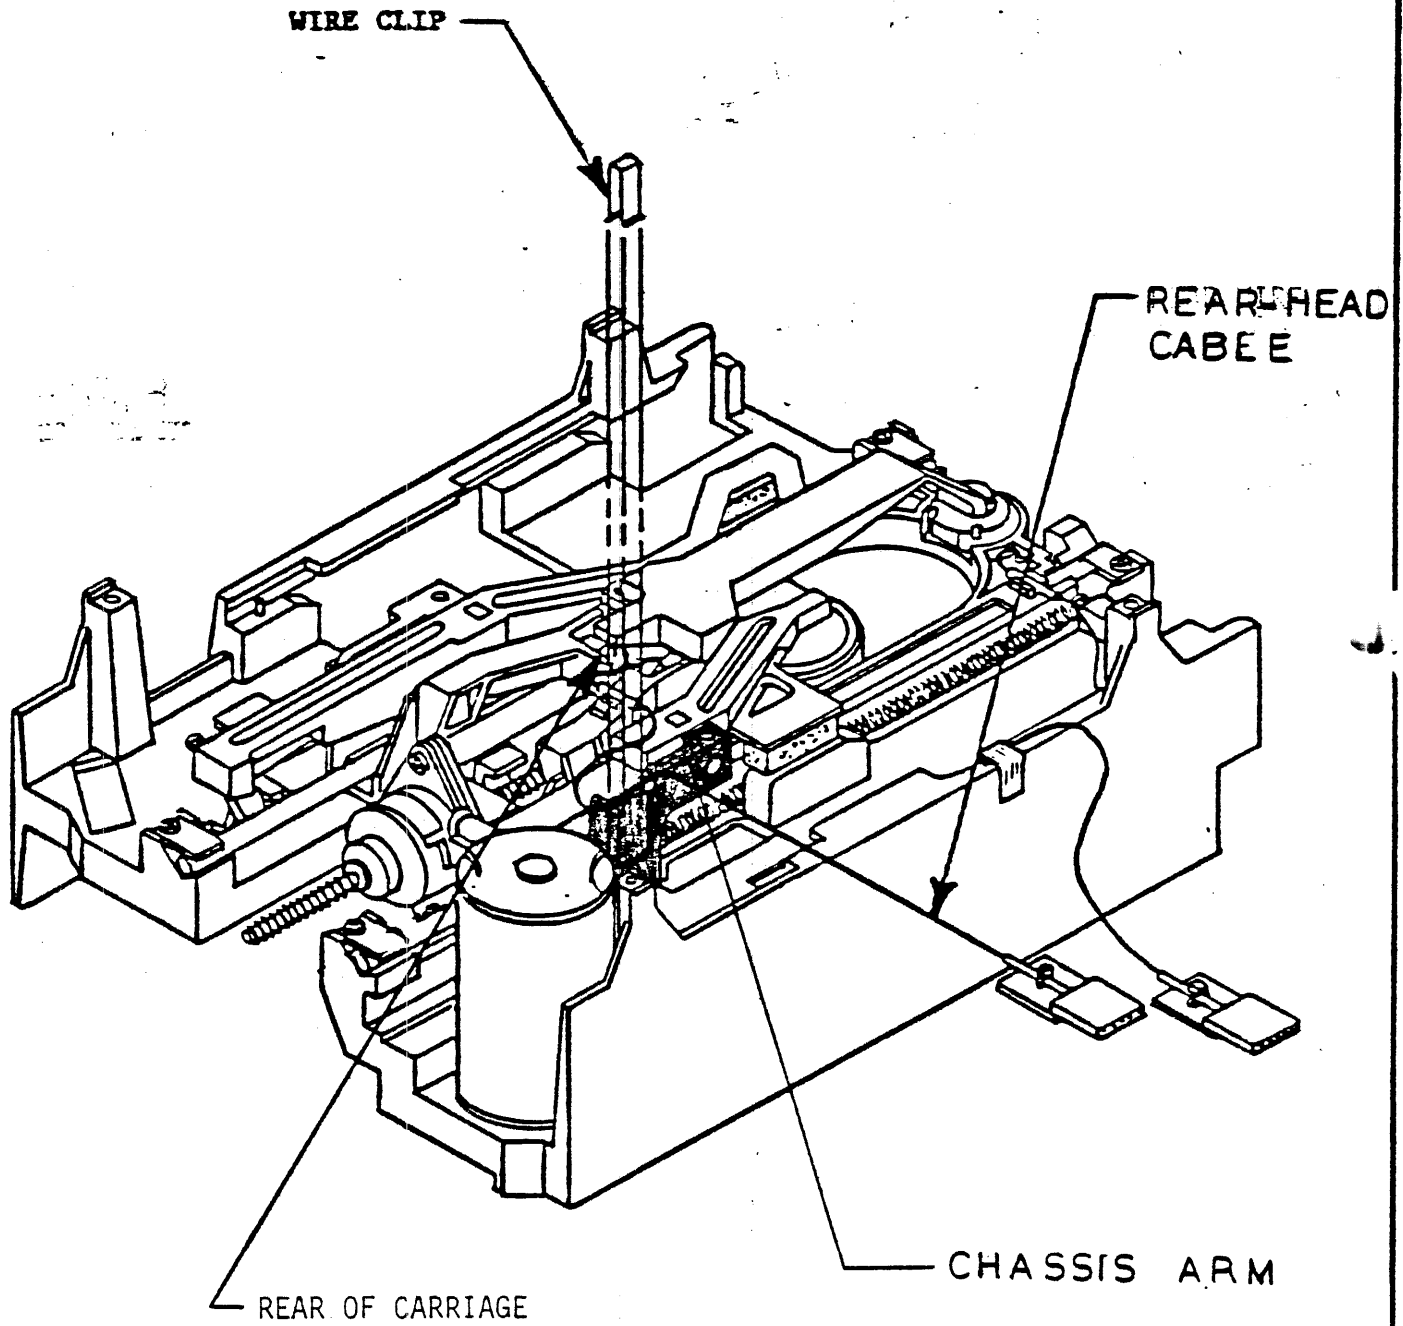

FIGURE 6. THE REAR HEAD CABLE PLACEMENT
- 7.3.2 Gently place the rear-head cable along the top of the chassis arm located next to the dual switch, as shown in Fig. 6. Be sure the cable's loop is short and placed to the side of the chassis arm closest to the head-carriage. Slide a wire clip over the cable and halfway into the chassis groove.